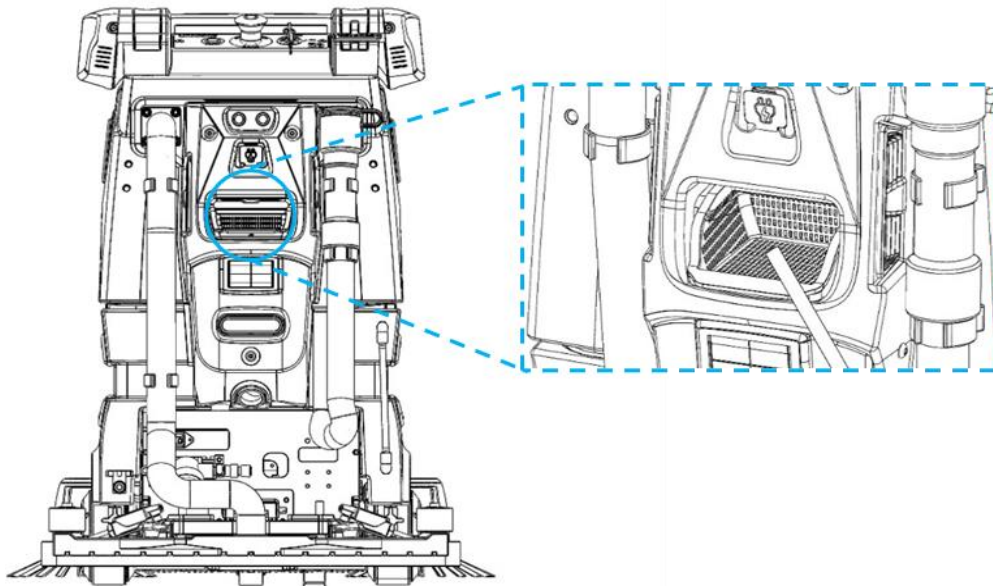

FIGURE 10-10
4. Place the other end of the hose into the clean water inlet and flush the clean water tank by filling it with water (Fig. 10-10).